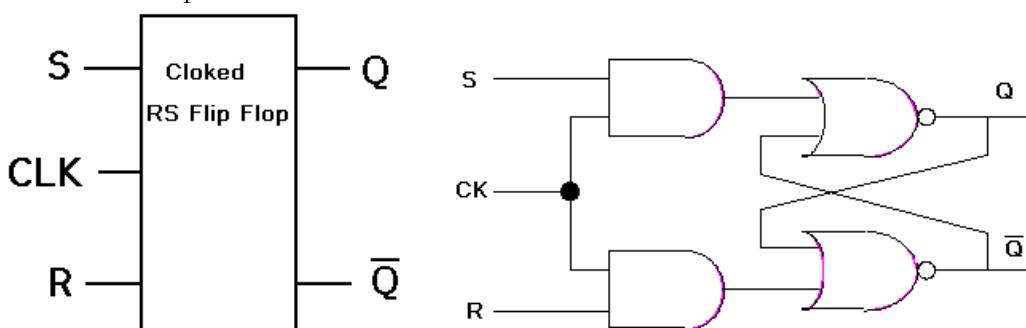

Fig 11.1: (a) Simplified block diagram of Clocked RS-latch (b) Clocked RS Latch
In RS latch we saw that the output was changing by changing both inputs. In sequential systems, the change of state in the latch is often required to occur in synchronism with the clock pulse. Now the idea is that, a third input is introduced i.e. clock input (CK), which controls the output of the circuit. This is carried out by modifying the RS latch into the one of fig 11.1. In this case output will change only by changing the clock input.
- Carry out the circuits of Fig 11.1 by using ICs of NOR and AND gates